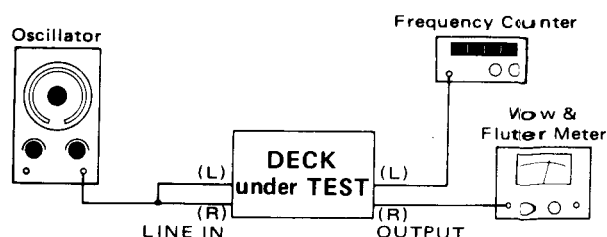

Fig. 4-7
1. Connect a frequency counter to the deck as shown in Fig. 4-7.
1. Connect a wow-and-flutter meter to the deck as shown in Fig. 4-7.